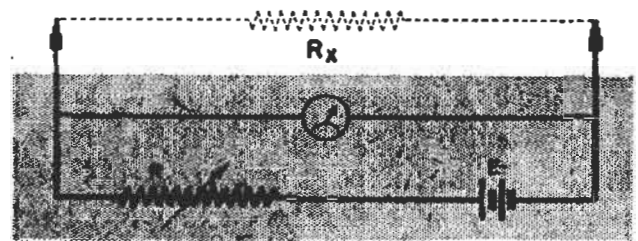

FIG. 28. This shunt ohmmeter is excellent for low-resistance values.
**Low-Range Ohmmeter.** A shunt-type ohmmeter circuit, shown in Fig. 28, is used to measure low values of resistance. The resistor  $R$  is adjusted until the meter reads full-scale with the test leads separated. When the test leads are connected to the resistance being measured, a lower meter reading results, as the unknown resistance  $R_x$  is connected in parallel with the meter and acts as a shunt across the meter. Notice these two important facts: (1) zero ohms on the shunt meter is at the left, exactly opposite to a series ohmmeter; (2) if the test